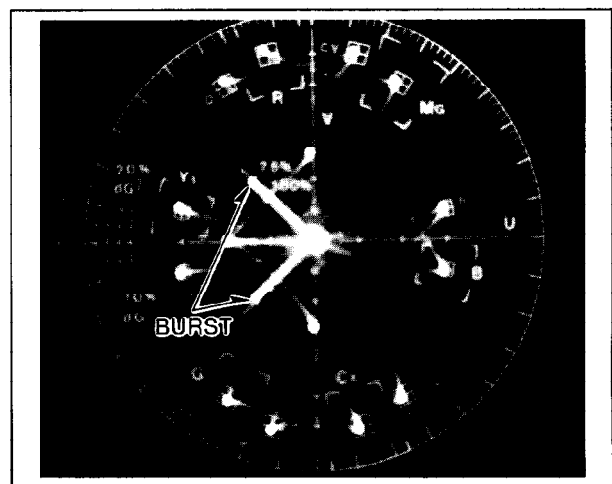

Fig. E29
4. Turn on the TBC SW and adjust VR9004 so that the burst vector gain to be same as the TBC SW off condition(75%) as shown in Fig.E29.